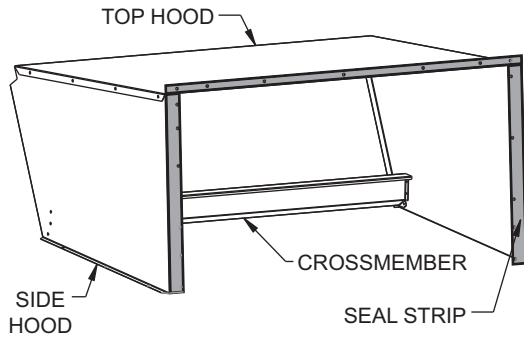

Fig. 23 — Adding Seal Strip to Hood Top and Side Hoods
5. Apply black seal strip (provided) to mounting flanges of hood sides being sure to cover mounting holes. See Fig. 23.
6. Apply black seal strip (provided) to back of hood top mounting flange. Seal strip of hood top mounting flange must press tightly against seal strip of hood side mounting flanges. See Fig. 23.